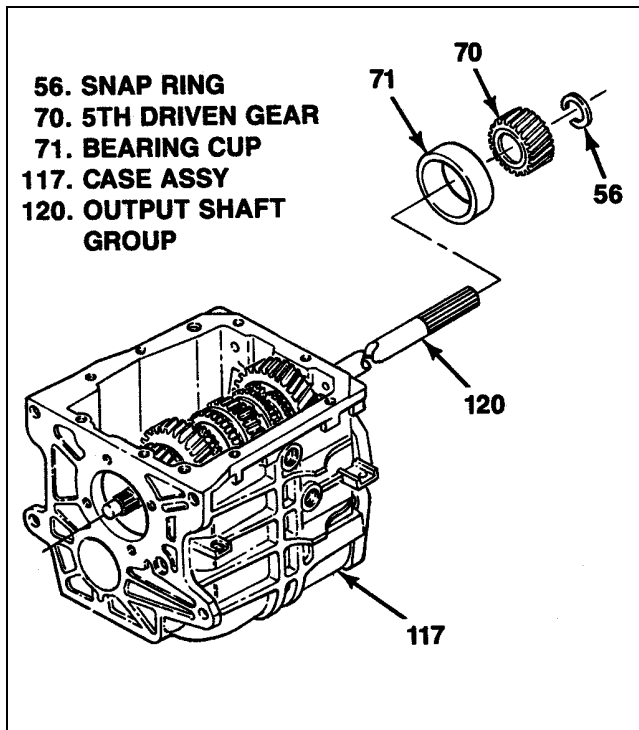

Figure 6-10. Installation of T5 WC Output Shaft Group
6-12. INSTALLATION OF T5 WC OUTPUT SHAFT GROUP. After assembly of output shaft group (120) (paragraph 6-11), install as follows (see figure 6-10):
- a. Tilt rear end of output shaft group (120) down and install through top opening and out rear of transmission case (117). Rest output shaft group on countershaft previously installed.
- b. At rear of transmission case 8117, install bearing cup (71), 5th, driven gear (70) and one snap ring (56).